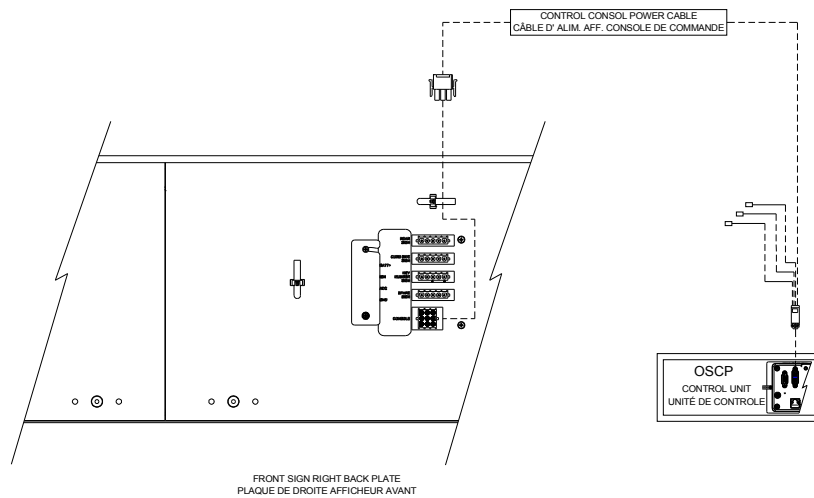

Figure 6: OSCP Power Cable Connection
- Connect the OSCP extension cable (9-pin connector) to the **OSCP** connector (9-pin connector) located on the Back Plate of the Front Destination Sign. (See Figure 6)
- Connect the other end of the OSCP extension cable (D-sub 15-pin connector) to the corresponding connector located on the OSCP. (See Figure 6).